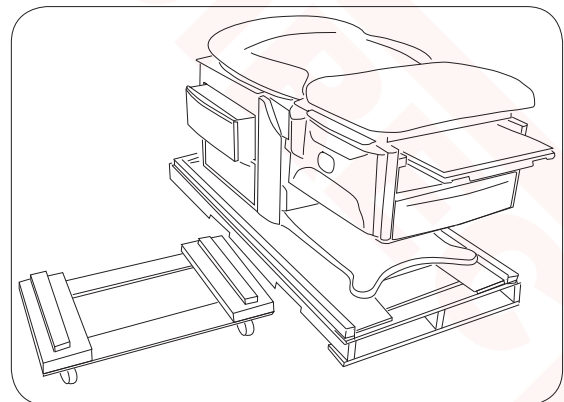

Figure 15. Furniture dolly ready for table
15. Position furniture dolly close to pallet for transfer of table (Figure 15).